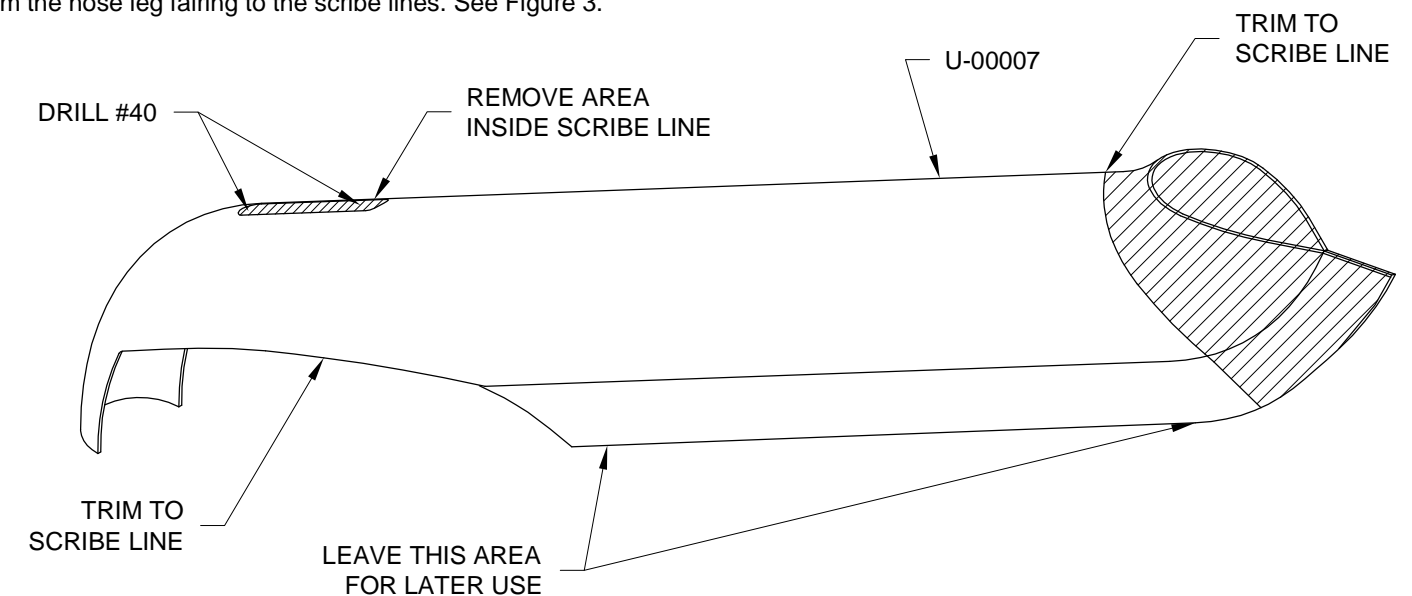

FIGURE 3: NOSE LEG FAIRING TRIM
Step 4: Drill #40 multiple places inside the scribe line on the forward surface of the U-00007 Nose Leg Fairing to create an opening for the WD-1201 Gear Leg Assembly winch lug as shown in Figure 3. Finish up to the scribe line with a file and sandpaper.
Trim the nose leg fairing to the scribe lines. See Figure 3.